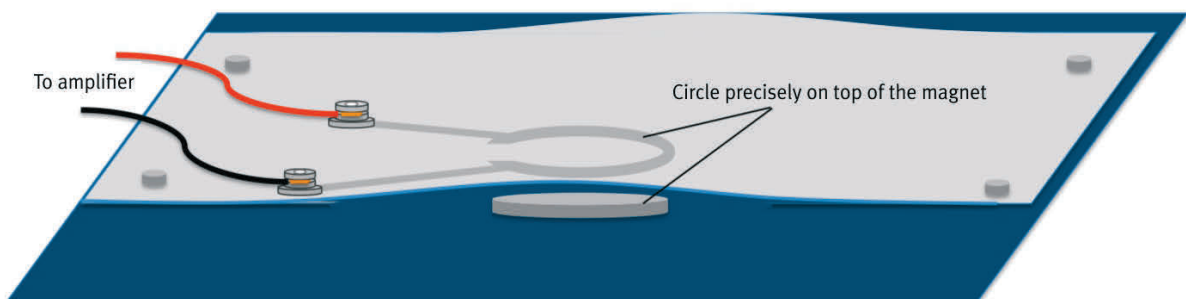

Figure 31: Layout and connection of the paper loudspeaker
- Push the paper together slightly so that it bulges, thus resulting in a small space (1 or 2 mm) between the magnet and the paper at the painted circle (see figure 31).